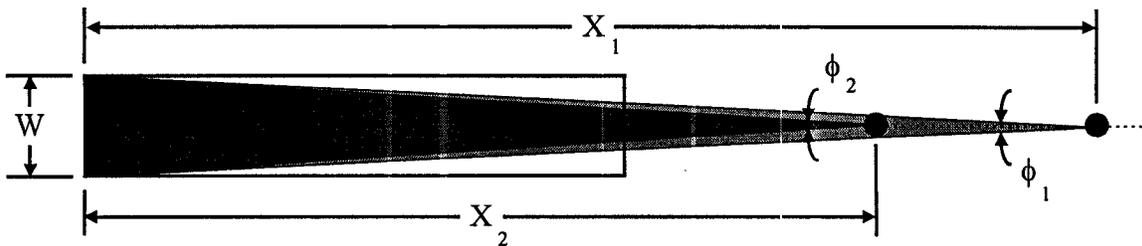

Figure 2-6. Spread Lens Angles.
1. Spread Lens. There is often confusion regarding the effect of a narrow spread lens on the sensitivity of a range. The beam width of the optic has nothing to do with the lateral sensitivity of a range. The beam width is of some concern when a narrow spread lens is used, such as the RL-14 optic with a 3 degree spread lens (3 degree beam width between 50% intensity points) or a 250mm optic with a condensing panel (2 degree beam width between 50% intensity points). Care must be taken to ensure that minimum intensities listed in the printout are in fact provided by the lighting hardware over the full width of the channel. The angle subtended at the far end of the useful segment, ϕ , (see Figure 2-6) is given by: